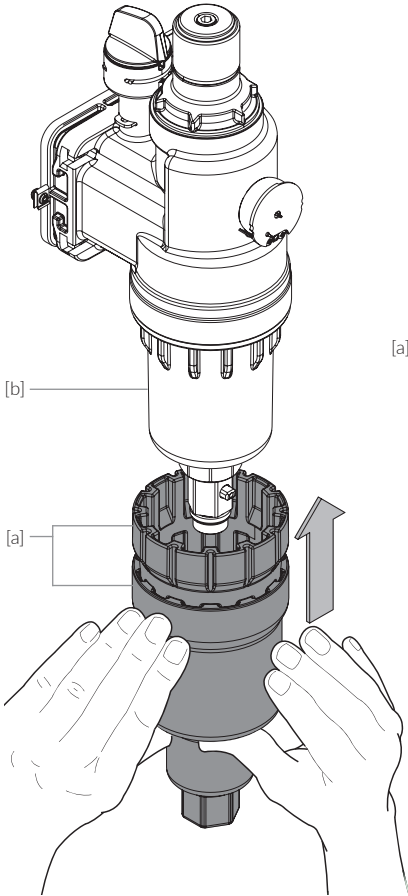

Fig. 9.13
- / Fig. 9.13: Guide CONEL maintenance nut filter cup DN20-32 [a] (see chapter 12, spare parts), which consists of two individual parts, over the filter cup [b] from below